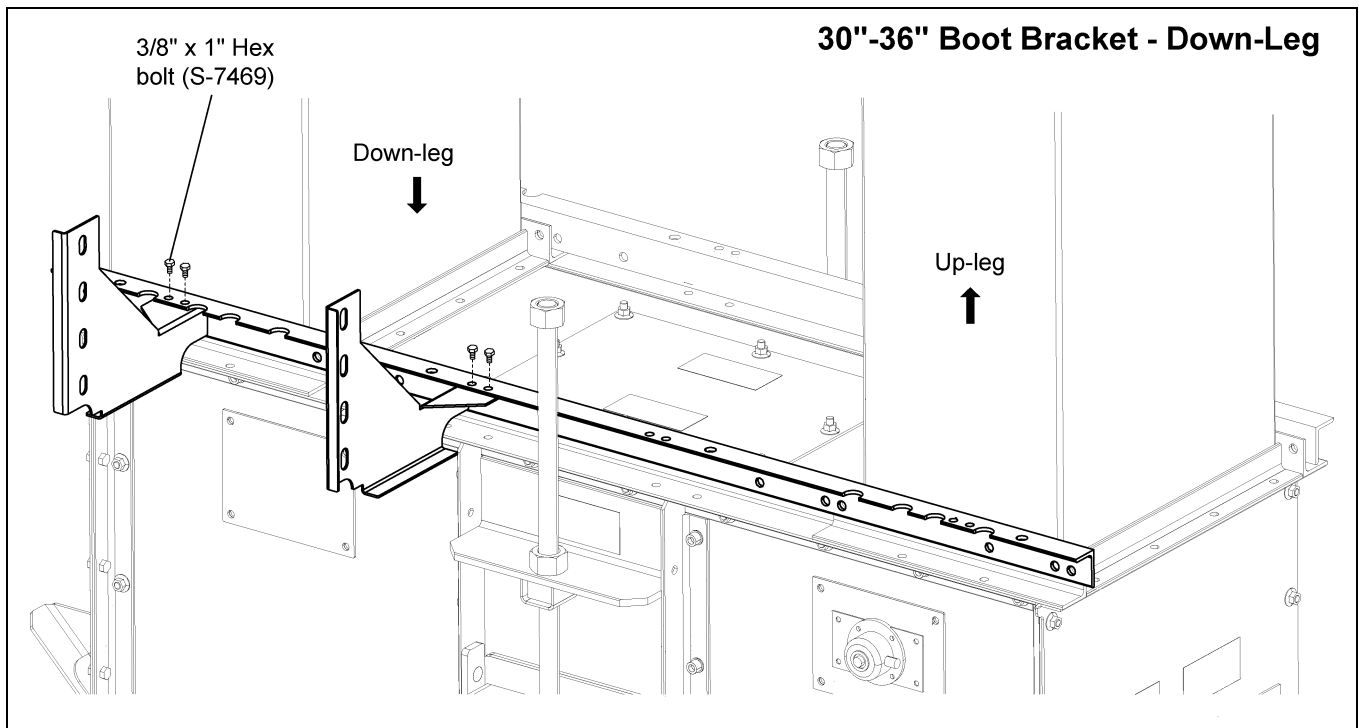
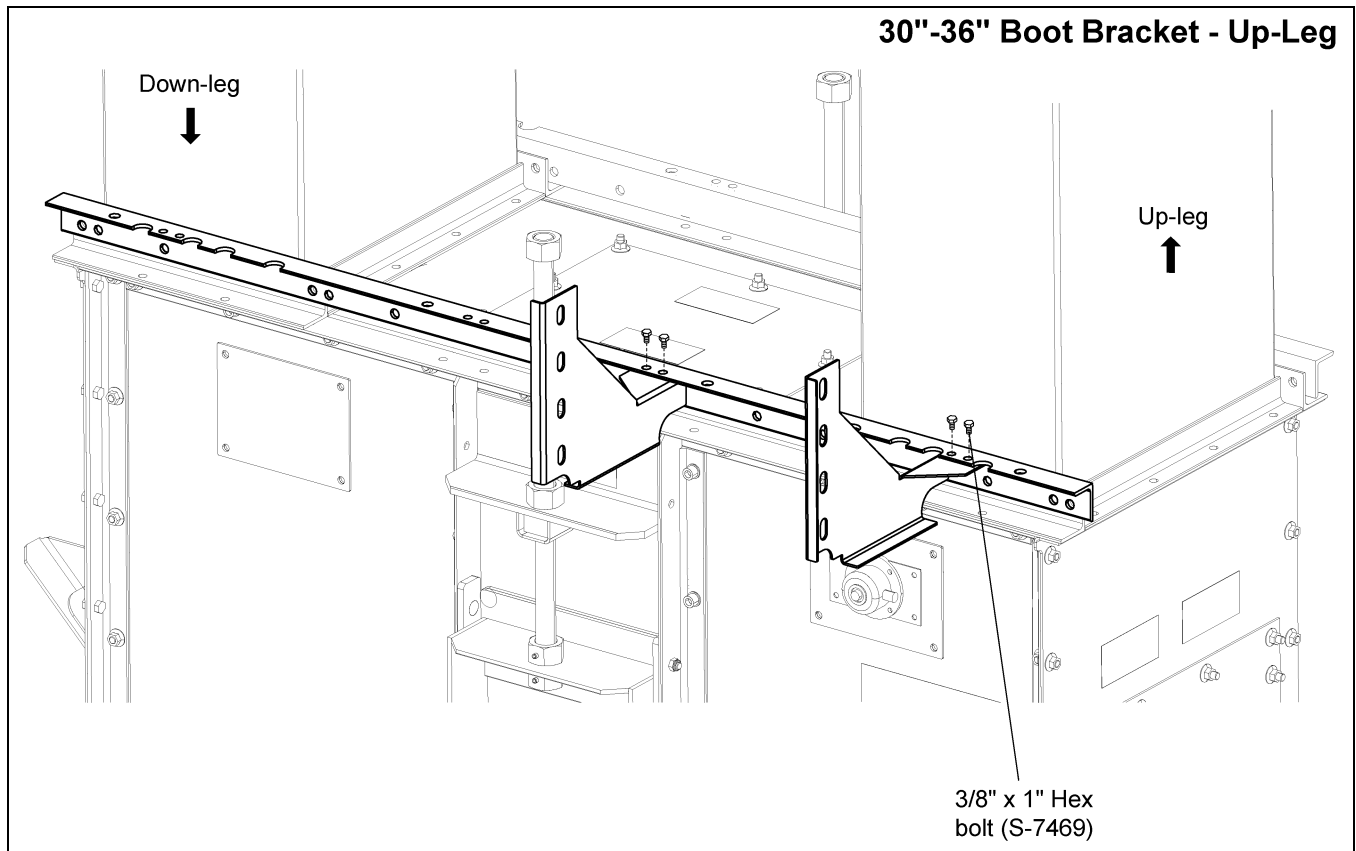

Figure 6C 30"-36" Boot Bracket Down-Leg
Figure 6D 30\"-36\" Boot Bracket Up-Leg
1. Use the holes indicated based on bucket elevator size in Figure 6C and attach ladder support brackets to boot tie angle using 3/8" x 1" hex bolts. Remember to double check if the ladder should start on the up-leg side or the down-leg side. (See Figure 6C below and Figure 6D on Page 22.)
- a. **30"-36" Down-Leg Bracket:** Use 3/8" x 1" hex bolts to attach the ladder support brackets to the boot tie angle using the holes indicated in Figure 6C. Note the outer bracket uses the first set of holes on the outside.
- b. **30"-36" Up-Leg Bracket:** Use 3/8" x 1" hex bolts to attach the ladder support brackets to the boot tie angle using the holes indicated in *Figure 6D*. Note the outer bracket uses the first set of holes towards the outside.